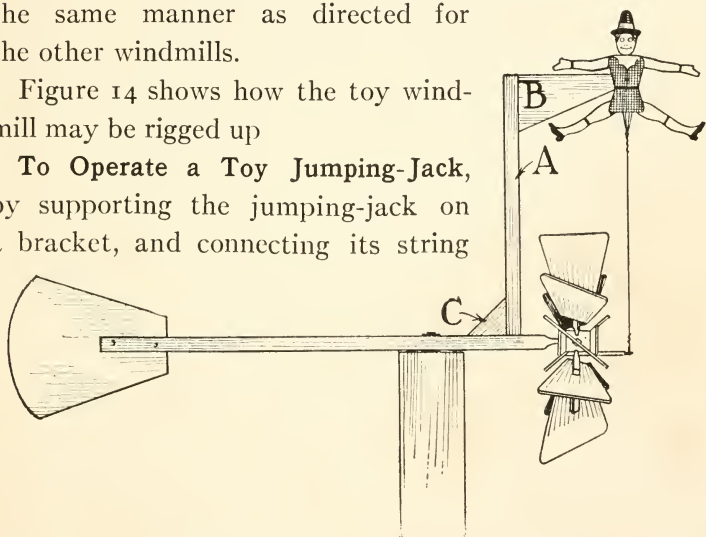

FIG. 14. — How the Windmill may be Rigged up to Operate a Toy Jumping-Jack.
Figure 14 shows how the toy windmill may be rigged up
Cut the upright of the bracket (A, Figs. 14 and 15) 14 inches long, and the crosspiece (B) 7 inches long. Nail A to B, and nail the jumping-jack at its center to the end of B (Fig. 15). Fasten the triangular block (C) to the
Then as the windmill revolves it will operate the toy in the manner indicated in Figs. 14 and 15.